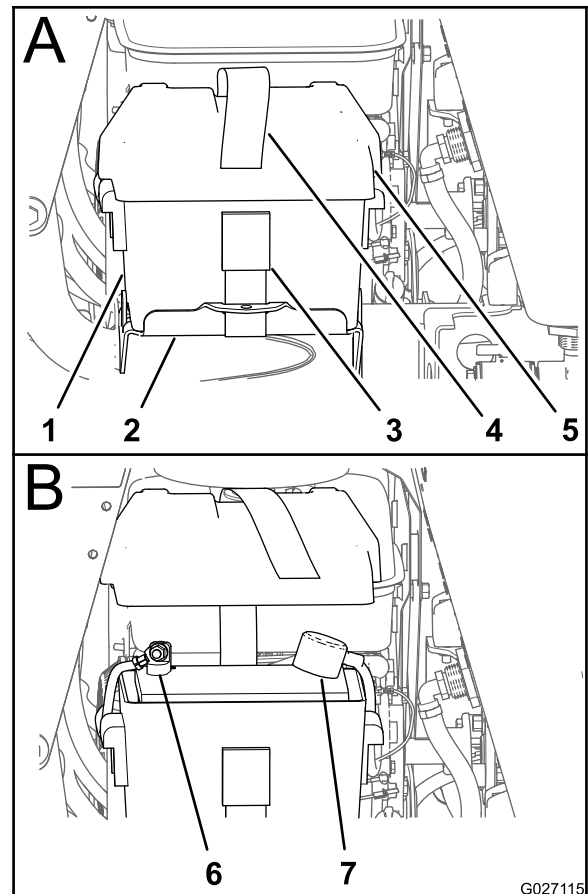

Figure 71
2. Remove the free end of the battery strap from the buckle and remove the battery cover from the battery box (Figure 71).
- If the positive cable is also disconnected, connect the **positive (red) cable** to the positive battery terminal and slip terminal cover over the positive terminal (Figure 71).
- Align the battery cover to the battery box and secure the cover and box to the battery tray with the battery strap (Figure 71).
2. Remove the battery cover (Figure 71); refer to step 2 of Checking the Battery Charge (page 58).
6. Align the battery cover to the battery box and secure the cover and box to the battery tray with the battery strap (Figure 71)